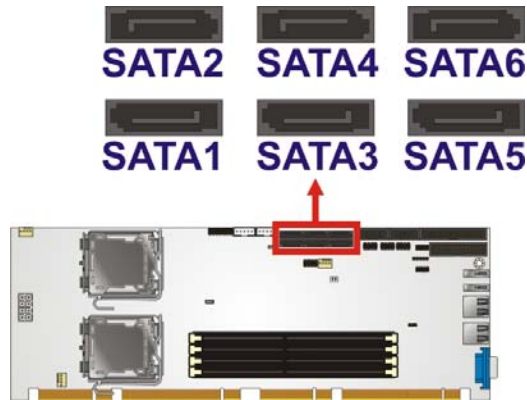

Figure 3-13: SATA Drive Connector Locations
- CN Location:** See Figure 3-13